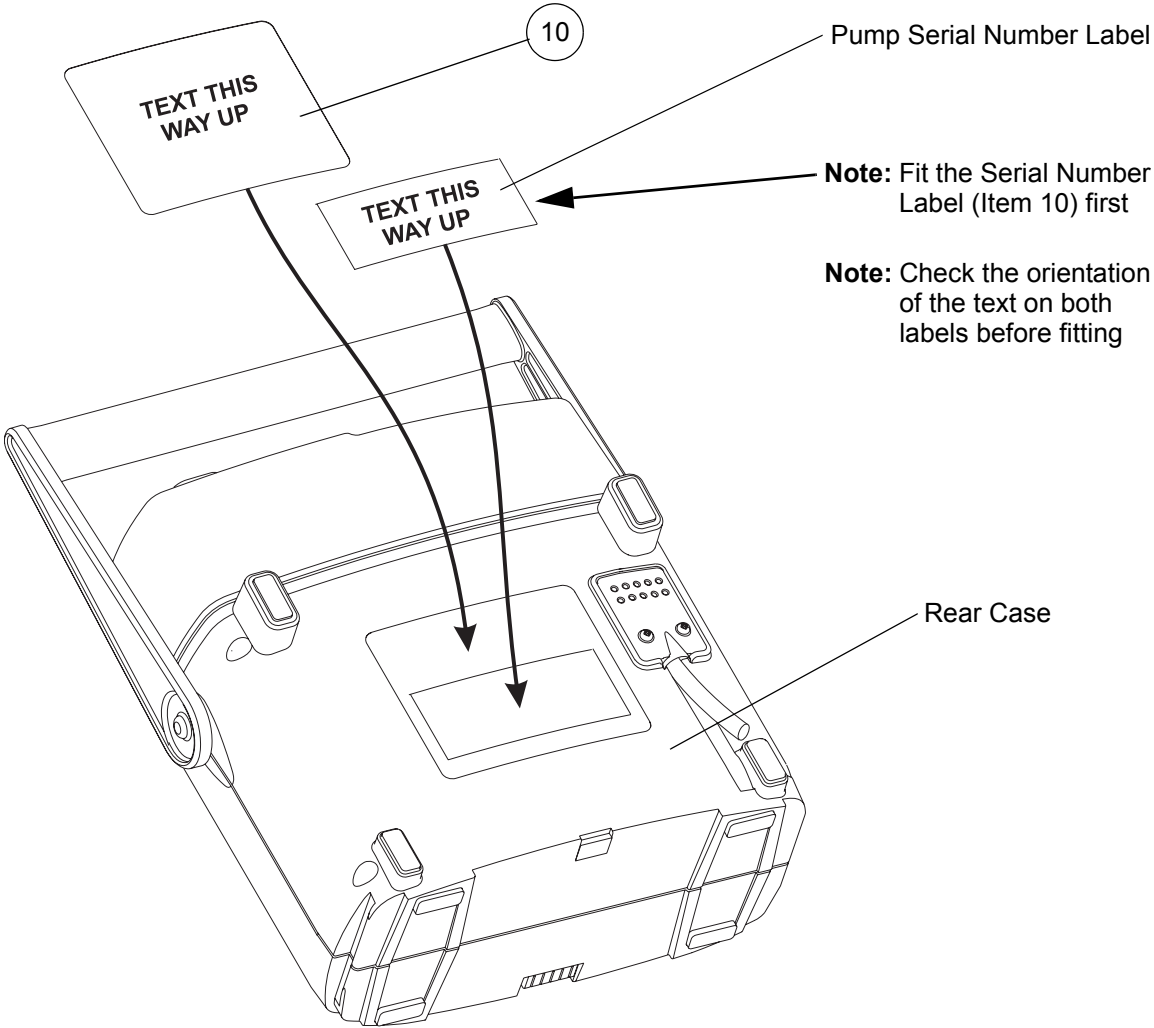

Figure 15 - Pump Labels
- 3.1 Remove and discard the product label (Fig 15, Item 10) from the old rear case, without damaging the serial number label underneath.
- 3.3 Using a suitable adhesive, stick the old serial number label onto the new rear case. Make sure the orientation of the text on the serial number label is correct (refer to Figure 15).
- 3.4 Put a new product label (Fig 15, Item 10) over the serial number label, and stick it onto the rear case. Make sure the orientation of the text on the product label is correct (refer to Figure 15).